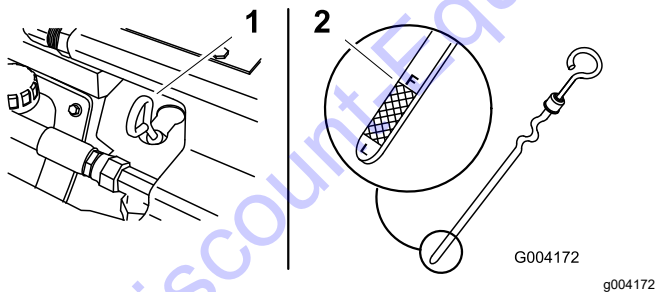

Figure 35
4. Clean the area around the oil dipstick (Figure 35).
5. Pull out the dipstick and wipe the metal end clean (Figure 35).
6. Slide the dipstick fully into the dipstick tube (Figure 35).